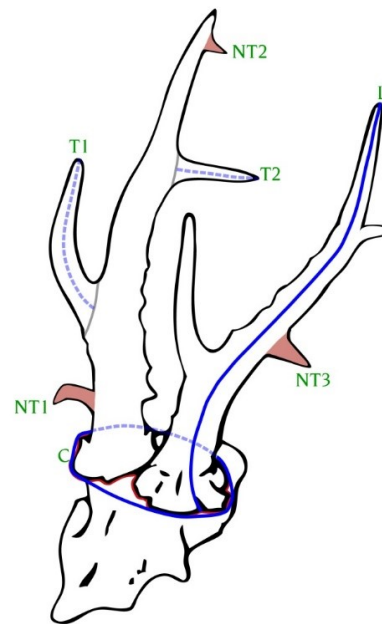
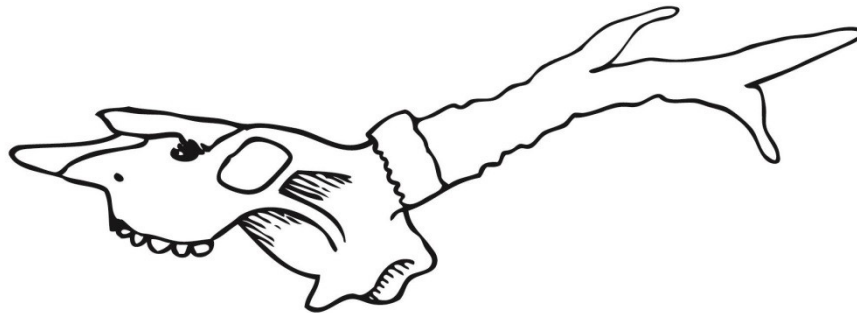

Figure 2
Figure 3
Figure 2 has a typical configuration with three additional NT tines.
1. Identifying Tines. For European roe deer, a valid tine is $\frac{8}{16}$ inch (1.3 cm) or more in length with a base no wider than its length. Start by drawing a baseline for all tines, T and NT, with a pencil (Figure 2), as explained in GDI, even if they appear to be slightly less than $\frac{8}{16}$ inch. This is so you will not miss a potential valid point. To be valid, all tines must be $\frac{8}{16}$ inch or more and not be any wider along the baseline than they are long; see GDI.
2. Main beam. Measure on the center of the outside curve from the lowest edge of the burr to the tip. For heads with pearling, a cable and not a tape must be used because it will lie closer to the main beam; pearling makes measuring with a tape harder. (Figure 2, L) The tape must not be pressed into the groove above the burr. As a general rule, the main beam is nearly always the longest antler growth. See NT tines, below, on how to identify the main beam on severe NT-antler configurations.
3. Typical tines. Measure the two typical tines on each side, which must be at least $\frac{8}{16}$ inch (1.3 cm) long. (Figure 2, T1 and T2) Measure on the longest side from the top of the tine to the baseline on the main beam. The typical roe deer configuration is a 3 x 3, with a main beam tip that goes straight up, a brow tine that points forward/upward about half to $\frac{2}{3}$ of the way up the front of the main beam, and a rear tine that points backward and emanates from the main beam in the upper third on the rear side. (Figure 3) This is the classic, typical European roe deer configuration. All other tines are NT. Figure 2 has a clearly identifiable typical frame, but in addition has three NT tines (NT1, NT2, and NT3). The direction and position of typical tines is critical: The brow tines grow forward and/or upward from about the middle of the main beam or higher. The rear tines grow straight backward.
4. Nontypical tines. Measure all NT tines, which must be at least $\frac{8}{16}$ inch (1.3 cm) long or more and no wider at the base than they are long. (Figure 2, NT1 and NT2) All tines that do not grow forward or backward are NT, and all tines that grow significantly higher or lower on the main beam than normal are NT. By definition, any tines beyond 2 per side are NT, and any tines off the burrs are NT. Some roe heads have so much mass that their lower main beams fuse and tines can become massive and not very long. (Figure 1) This can make it hard to determine the main beam; if all tines are measured correctly, there will be no difference in total score as there is no span measurement for European roe deer. However, the correct procedure on profound non-typical heads is to measure the longest antler from the burr as the main beam. For typical roe heads, non-typical tines do not count toward the score; however, the non-typical tines must be recorded; they are not deducted from the typical score.